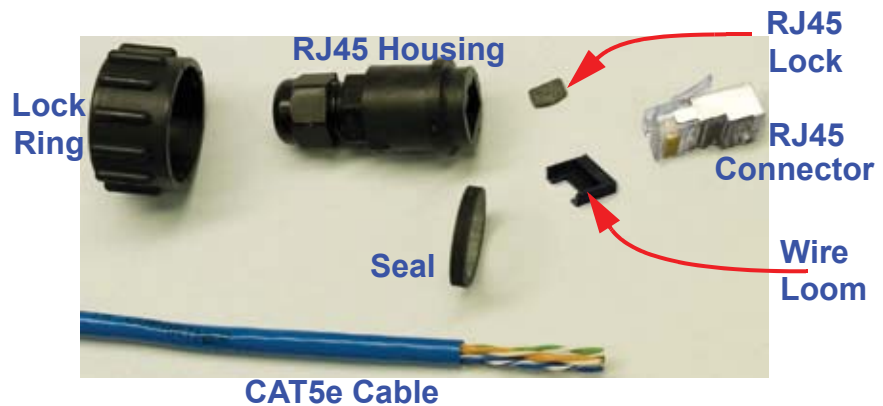
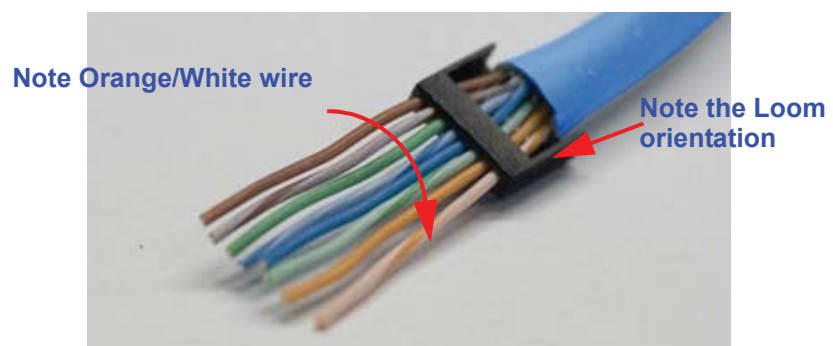
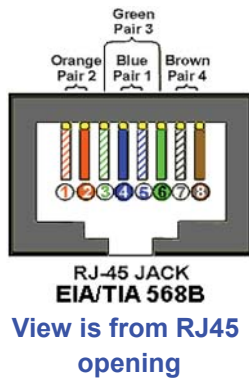

Figure 3-1 Industrial RJ45 Cable Parts
Figure 3-3 Close-up of Wire Loom
Figure 3-4 EIA/TIA-568B Color Code Example
Figure 3-1 displays the parts to build the Industrial RJ45 cable.
2. Remove the contents of the Industrial RJ45 connector from the package - do NOT dispose of or lose any pieces. Compare the contents with Figure 3-1. Contact Lighthouse Support if it appears that something is missing from the package or replacements are needed.
7. Carefully untwist each pair and straighten the wire. The individual wires will be inserted into the Wire Loom shown in Figure 3-1 and Figure 3-3. Note the Loom's flat tray shape. Insert the wires into the loom based on the EIA/TIA-568B standard as shown in Figure 3-4.
inch of each wire extends beyond the edge of the loom. This allows for trimming the wires in a straight line parallel to the loom edge. One-eighth-inch is required for crimping into the RJ45 connector so, in step 9, do not trim shorter than one-eighth-inch. Review the photos in Figure 3-4 to ensure accuracy.
9. Continue to push the cable into the loom and trim the ends of the wires in a straight line to one-eighth-inch as illustrated in the center panel of Figure 3-4.